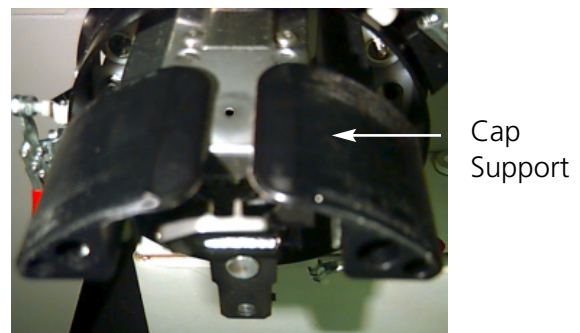

Figure 3-11
8. Position the driver cap supports on the needle plate (see Figure 3-11), center them to the needle plate hole and in the same time adjust their position in up-down direction by moving driver up-down on the slots in the bearing housing and slightly tighten at least one socket cap screw on the bearing housing using 4mm hex allen wrench. The cap supports should touch the needle plate lightly and the driver should slide freely from front to back without any restriction; the cap supports should not have any visible side to side movement.